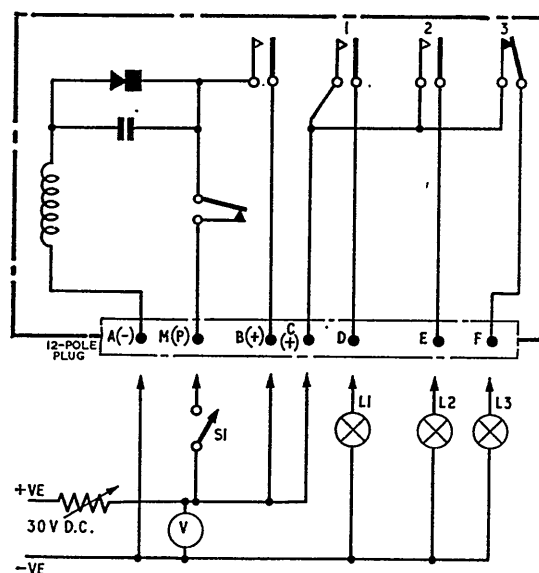

Fig. 1. Switch, Type D8164, circuit diagram and test circuit
1. This time delay switch has two pairs of circuit contacts, the circuit diagram (fig. 1) shows the switch internal wiring and the associated test circuit. The total motor run and circuit contact timing is detailed in para. 3.